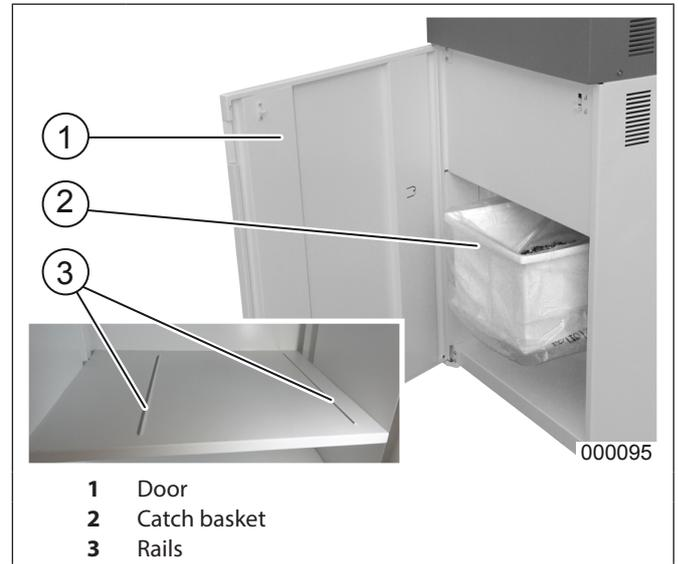

Fig. 5 Catch basket
Proceed as follows to empty the catch basket (Fig. 5/2):
1. Open the door (Fig. 5/1).
6. Insert the basket back into the machine. Place the basket correctly between the rails (Fig. 5/3) and push it to the rear wall.